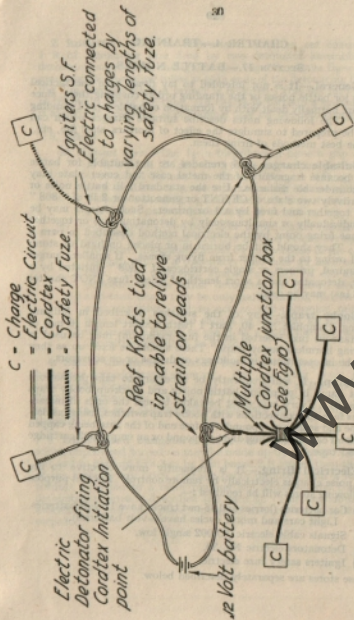

Fig. 20. Diagrammatic layout of electrical circuit for battle noises
6. Detonator electric No. 33.—This consists of a No. 27 detonator (see Sec 5) with an electric firing head on the top. When an electric current of sufficient strength is passed through the head a flash occurs which fires the detonator. A fully charged battery will produce sufficient current to fire a certain number of detonators connected in series with the battery through a given length of cable. The term "in series" means that the detonators are connected up by lengths of cable, the circuit starting at one terminal of the battery, passing through each detonator in turn and finishing at the other terminal (see Fig 20). Table 3 shows the number of No. 33 detonators and igniters which can be fired by standard 6- and 12-volt batteries through different lengths of cable, assuming batteries FULLY CHARGED.